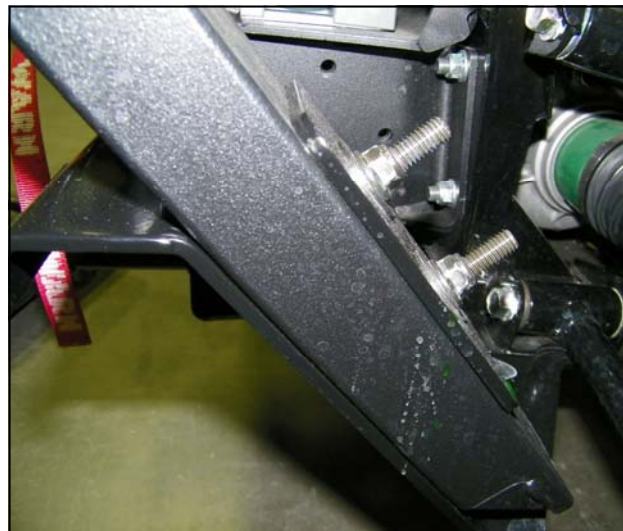

Fig. 7
7. Slide 9/16" OD sleeve spacer over the hex bolt from holes in the back of the bumper being cautious not to drop spacer. Place mount support bracket and attach with 3/8"-16 Nyloc nuts and 3/8" ID x 1-1/4" OD washer as shown in fig. 7. Fully tighten hardware at this time.